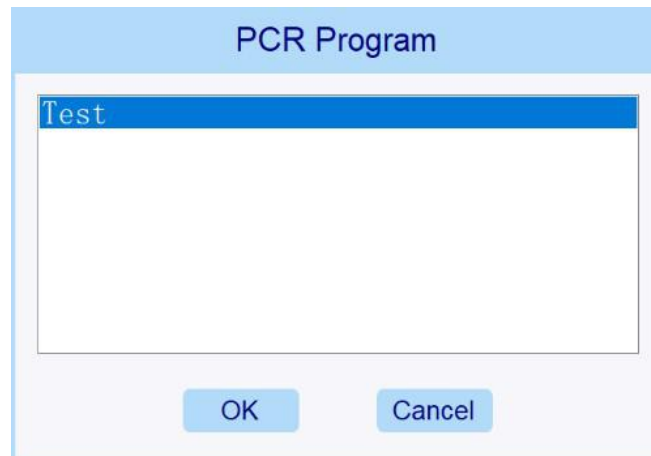

Figure 6-10 PCR program selection interface
- The user clicks the "PCR" button and select the PCR program to be executed, as shown in figure 6-10, and then click "OK" to start the specified PCR process while click "Cancel" to stop the operation.